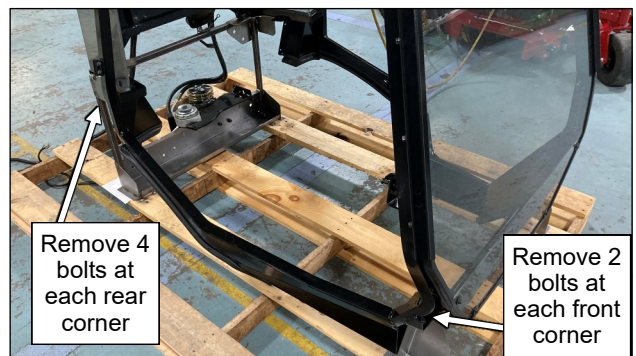

Fig. 4.5 (Cab pallet bolts)
- 4.5 See figure 4.5. Put tension on the lifting strap with the overhead hoist. Remove and discard the 8 bolts holding the rear of the cab down to the rear shipping mount as well as the 4 bolts holding the cab to the front mounts.